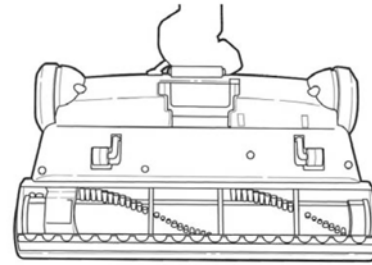

Figure 6.
7. Replace the brush cover by inserting the tabs on the front of the cover into the appropriate slots in the Powerbrush base (as shown in Figure 6) and press down on the front clips until they snap-lock into place. Then replace the 4 screws.